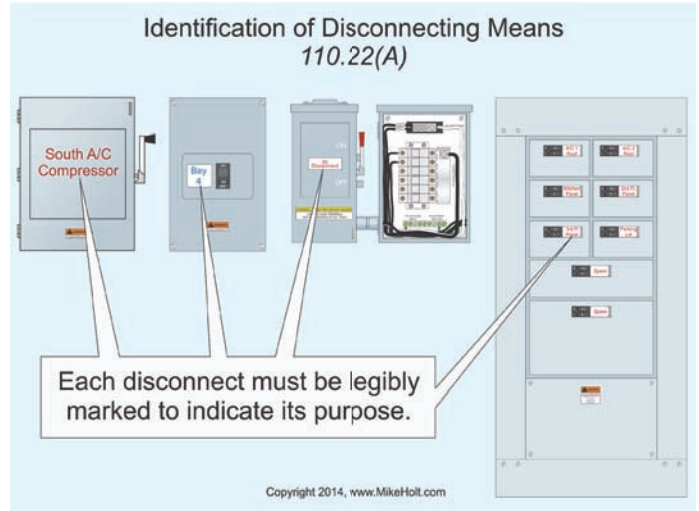

Figure 110–7
**(A) General.** Each disconnecting means must be legibly marked to indicate its purpose unless located and arranged so the purpose is evident. The marking must be of sufficient durability to withstand the environment involved. **Figure 110–7**
**(C) Tested Series Combination Systems.** Tested series-rated installations must be legibly field-marked in accordance with 240.86(B) and 110.21\(B\) to indicate the equipment has been applied with a series combination rating.